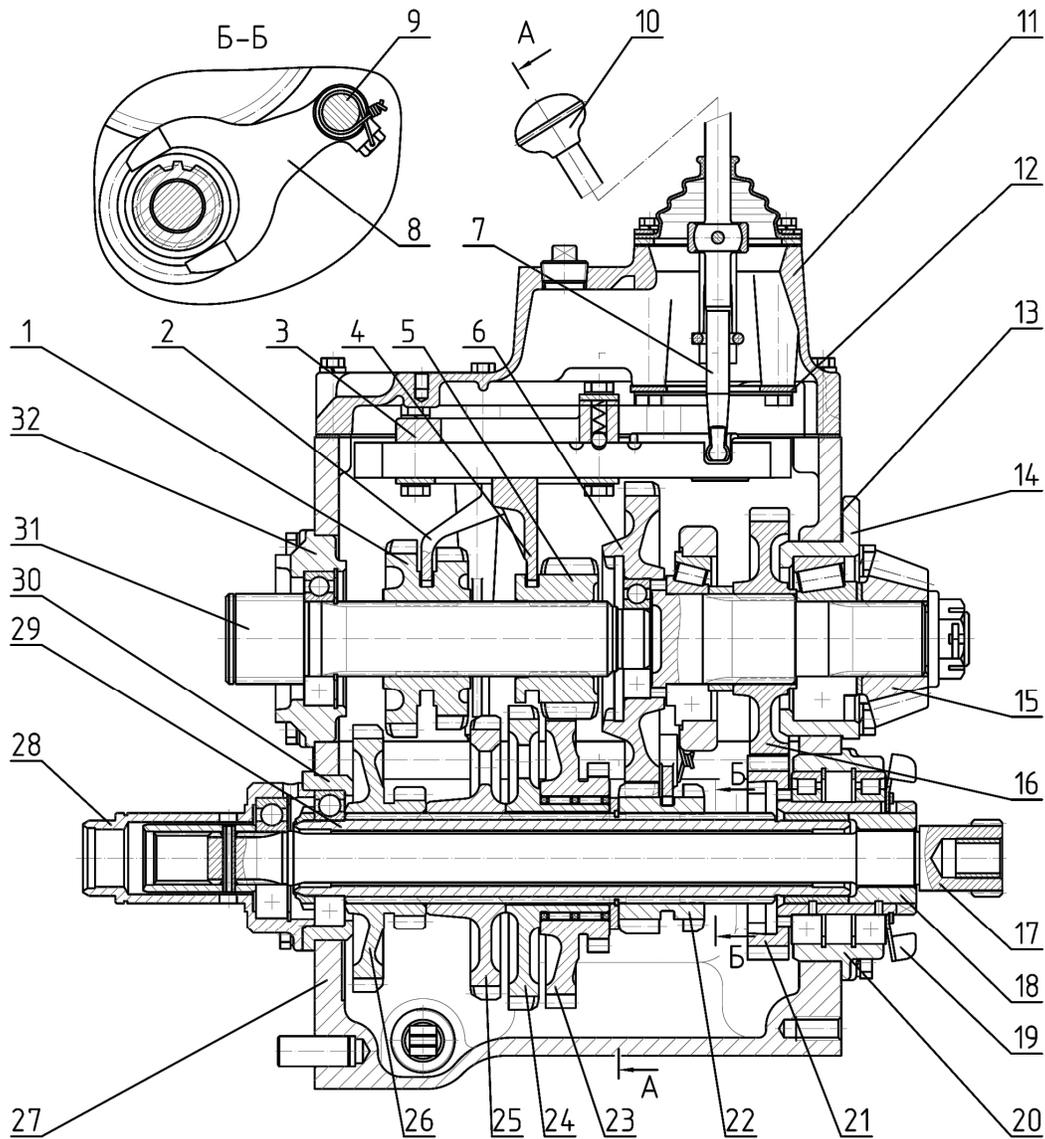
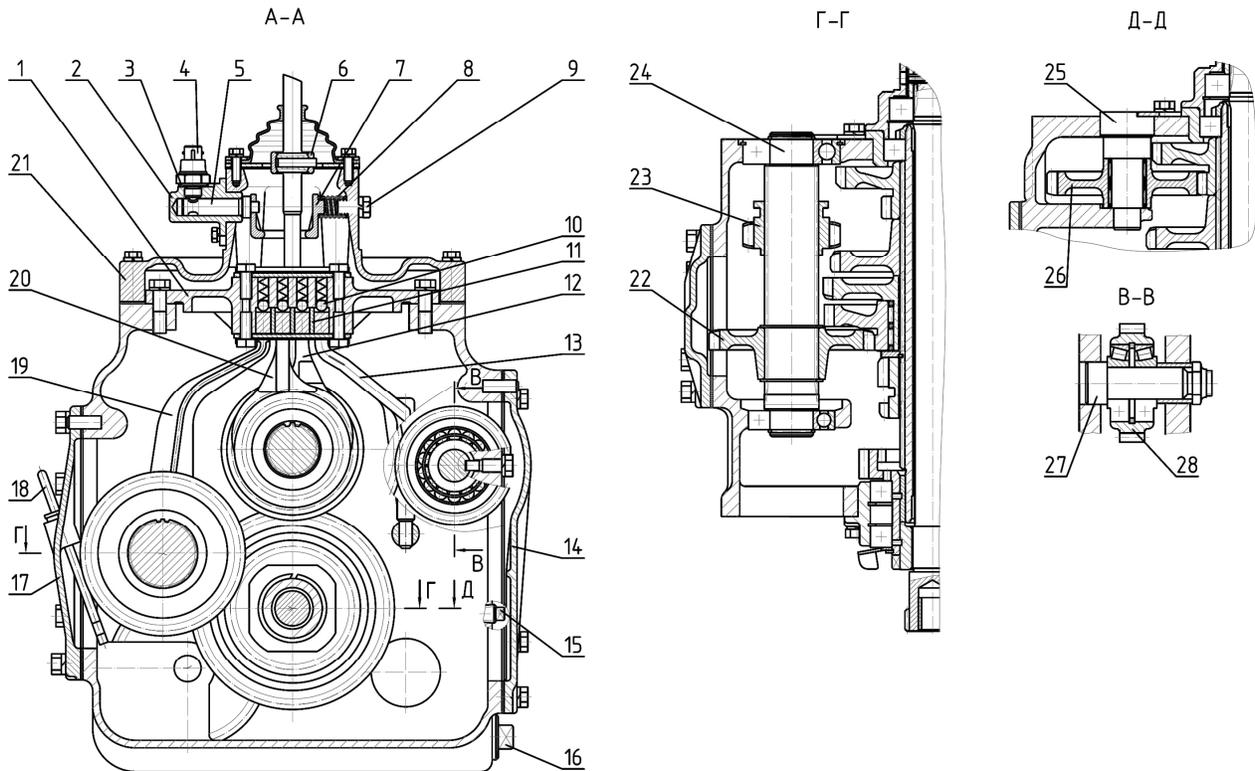

Fig. 1. Gearbox of BELARUS-510/512 tractor (9F/2R)
Fig. 2. Gearbox of BELARUS-510/512 tractor (9F/2R)
The GB (Fig. 1 and 2) consists of the mechanical gears unit and GB control.
The mechanical gears unit of the GB consists of the concentric input (31) and output (6) shafts located in the GB housing (27) (Fig. 1)*, as well as an intermediate shaft (29) parallel to them and the shaft of 1st gear and reverse (24) (Fig. 2).
The input shaft (31) (Fig. 1) is mounted on two ball bearings one of which is placed in the body (32) on the front wall of the GB housing (27). The second one is in the boring of the output shaft (6). On the input shaft, a double-wheel drive pinion of 4th and 5th gears (1) and a drive pinion of 3rd and 6th gears (5) with possibility of axial sliding movement along the shaft splines are installed.
The output shaft supports (6) (Fig. 1) are two tapered roller bearings, one located in the GB housing boring (27), and the second in the body (14) installed in the boring of the rear wall of the GB housing (27). Structurally, the output shaft is made as one piece with the driven pinion of 1st stage of the range reducer. The gear ring is located cantilevered in front of the output shaft (6). Between the supports of the output shaft, the driven pinion of 11nd stage of the range reducer (16) is installed fixed on the splines, which is also the drive pinion of the rear PTO synchronous drive. On the rear arm of the output shaft, the drive gear (15) of the rear axle final drive (small bevel pinion) is installed fixed on the splines.
On the intermediate shaft (29), fixed on the splines are installed the double-wheel driven pinion of 5th and 8th gears and reverse gears (26), driven pinion of 4th and 7th gears (25), and driven pinion of 3rd and 6th gear (24), on the hub of which the double-wheel intermediate pinion (23) is freely rotating on needle roller bearings, being in constant mesh with the pinion (22) (Fig. 2) installed on the shaft of 1st gear and reverse gears (24). On the intermediate shaft (29) (Fig. 1), with the possibility of axial movement the drive pinion (22) of 1st stage of the range-reducer is installed.
The 1st gear and reverse shaft (24) (Fig. 2) is installed on two ball bearings located in the GB housing borings. In the front of the shaft (24) on splines, the sliding pinion (23) of hill-climbing gears and reverse gears is installed. Backward movement of the sliding pinion (23) up to meshing with the pinion (25) (Fig. 1) provides forward hill-climbing gears, and forward movement up to meshing with the intermediate pinion of reverse motion (26) (Fig. 2) provides reverse gears. The intermediate reverse pinion (26) is installed on the axle (25) and is freely rotating on it on a needle roller bearing. The pinion (26) is in constant mesh with the smaller gear ring of the double-wheel gear (26) (Fig. 1).
At the rear part of the shaft (24) (Fig. 2), fixed on its splines, the driven pinion of hill-climbing gears and reverse gears (22) installed, which is constantly meshed with the smaller gear ring of the pinion (23) (Fig. 1) of the intermediate shaft (29).
On the right side of the GB of the tractors with FDA drive, the axle (27) is installed in the GB housing borings, on which on two tapered roller bearings the FDA drive pinion (28) is freely rotating. Power is taken off at the FDA from the driven pinion of 1st stage of the range reducer (6) (Fig. 1), with which the pinion (28) (Fig. 2) is constantly meshed.
On the front wall of the GB housing (27) (Fig. 1), concentrically to the intermediate shaft (29), the seat (28) is installed, inside of which the inner shaft front bearing (17) is located.
On the right and left sides of the GB housing, there are windows (Fig. 2). The left window is closed with the cover (17), in which there is a dipstick (18) to control the oil level. The tractors without an FDA drive have the right window closed with the cover (14), and the tractors with the FDA drive have the cover (14) removed and the window closed by the FDA drive transfer box housing (see section).
The GB control consists of the forks housing (3) (Fig. 1) and the GB control cover (11) that are installed on the upper plane of the GB housing (27) and bolted to it.
The forks housing (3) (Fig. 1) consists of the fork of 1st gear and reverse gears (19) (Fig. 2), the fork of 3rd and 6th gears (20), the fork of 4th and 5th gears (12) and the range reducer rod (13), the rails of which are installed in the groove of the housing (1) and can move along the groove. On the upper surfaces of the rails, there are transverse holes in which the spring-loaded balls of the latches (10) are inserted, which provide locking of the forks rails and reducer rail in the desired positions, as well as prevent spontaneous disengagement of the gears under load.
The rod (13) is connected with the shaft (9) (Fig. 1), on which the fork (8) is fixed that moves the drive pinion of 1st stage of the range reducer (22).
The forks and range reducer rails are separated by three lock strips (11) (Fig. 2). The strips (11) are installed in the housing (1) fixed and exclude simultaneous movement of several rails by the gear shifter lever (7) (Fig. 1). When a gear is engaged, the lock strips (11) lock the gear shifter lever (7) (Fig. 1) in the rail groove of the fork of the gear engaged.
The GB control cover (11) consists of the cover (21) (Fig. 2), on the upper surface of which the spherical bearing (6) of the gear shifter lever (7) (Fig. 1) is bolted. When swinging, the gear shifter lever (7) directly affects the rails in the forks housing (3), causing their displacement and, consequently, engagement or disengagement of the selected gear or range in the GB.
The GB design provides an engine start lock when a gear is engaged in the GB. On the right side of the cover (21) (Fig. 2), the housing is installed (2) bolted to it. In the housing (2), the axle (5) of the spring-loaded rocking frame (7) is located. The ring hole of the frame (7) envelops the gear shifter lever (7) (Fig. 1). At that, rocking of the lever (7) results in a corresponding movement of the frame (7) (Fig. 2), the axle flat (5) of which affects the diesel start lock sensor (4) mounted in the threaded hole of the housing (2).
The 9F/2R GB design provides 4 forward gears and one reverse gear, each of them can be engaged on the both range reducer stages, and one direct forward gear, at engagement of which the input (31) (Fig. 1) and output (6) shaft are rigidly linked by the drive pinion of 3rd and 6th gears (5) acting as a gear-type coupling at that.
To select and engage a reducer range, the operator shifts the gear shift lever (7) (Fig. 1) from the neutral position to the range-reducer position (Fig. 3). Further, to engage the 1st reducer stage, the operator shifts the GB control lever (7) (Fig. 1) backwards (Fig. 3). At that, the gear shifter lever (7) (Fig. 1), acting on the reducer rail (13) (Fig. 2), moves it and its associated roller (9) (Fig. 1) with the fork (8) forward. The drive pinion of 1st reducer stage (22) controlled by the fork (8) moves along the intermediate shaft splines (29) and engages with the driven pinion (6) of 1st range reducer stage.
To engage the 2nd reducer stage, the operator shifts the GB control lever (7) (Fig. 1) in the range reducer position forward (Fig. 3). At that, the gear shifter lever (7) (Fig. 1), acting on the reducer rail (13) (Fig. 2), moves it and its associated roller (9) (Fig. 1) with the fork (8) forward. The driven pinion of 1st reducer stage (22) controlled by the fork (8) moves along the intermediate shaft splines (29) and engages with the inner gear ring of the drive pinion (21) of 2nd range reducer stage, linking it to the intermediate shaft (29). The pinion (21) is in constant mesh with the driven pinion of the 2nd range reducer stage (16).
In the GB range reducer, there is no neutral position of the drive pinion of the 1st reducer stage (22) (Fig. 1), therefore either the 1st or the 2nd stage is always turned on in the range reducer.
To engage the 1st or 2nd forward or reverse gear, the operator shifts the GB control lever (7) (Fig. 1) to the extreme left position (Fig. 3) being the position of hill-climbing gears and reverse gears. Further, to engage the 1st or 2nd forward gear, the operator shifts the GB control lever (7) (Fig. 1) forward (Fig. 3). At that, the gear shifter lever (7) (Fig. 1), acting on the rail of the fork of the 1st gear and reverse gear, moves the fork (19) (Fig. 2) backward. The sliding pinion of 1st gear and reverse motion (23) controlled by the fork (19) engages with the driven pinion of 4th and 7th gears (25) (Fig. 1), and power in the GB is transmitted to the GB intermediate shaft (29) through the pinions (5), (23), (22) (Fig. 2), (23) and (25) (Fig. 1).
To engage the 1st or 2nd reverse gear, the operator shifts the GB control lever (7) (Fig. 1) to the position of hill-climbing gears and reverse gears backward (Fig. 3). At that, the gear shifter lever (7) (Fig. 1), acting on the rail of the fork of the 1st gear and reverse gear, moves the fork (19) (Fig. 2) forward. The sliding pinion of 1st gear and reverse motion (23) controlled by the fork (19) engages with the intermediate pinion of reverse gear (26) being in constant mesh with the lesser gear ring of the double-wheel pinion of 5th and 8th gears (26) (Fig. 1). At the reverse gear, power flow in the GB is transferred to the intermediate shaft (29) through the pinions (5), (23), (22) (Fig. 2), (23), (26) and (26) (Fig. 1).
lever (7) (Fig. 1) to the respective positions of those gears (Fig. 3). Further, to engage the 3rd (6th) gear, the operator shifts the GB control lever (7) (Fig. 1) to the position of the said gears backward (Fig. 3). At that, the gear shifter lever (7), acting on the rail of the fork of 4th and 5th gears, moves the fork (20) (Fig. 2) forward. The sliding pinion of 3rd and 6th gears (5) controlled by the fork (20) (Fig. 1) engages with the driven pinion of 3rd and 6th gears (24). By the emerged mesh, power is transferred to the GB intermediate shaft (29).
To engage the 9th (direct) gear, the operator moves the GB control lever (7) (Fig. 1) from the position of the 3rd (6th) and 9th (direct) forward gears (Fig. 3). At that, the gear shifter lever (7), acting on the rail of the fork of 3rd and 6th gears, moves the fork (20) (Fig. 2) forward. The sliding pinion of 3rd and 6th gears (5) controlled by the fork (20) (Fig. 1) engages with the inner gear ring of the output shaft (6), rigidly linking the input (31) and output (6) shafts.
The 9th (direct) gear must be engaged when the IInd range reducer stage is engaged (Fig. 3). This will avoid a loud noise in the GB, since the IInd reducer stage has an intermediate shaft speed (29) (Fig. 1) less than the Ist stage.
To engage the 4th (7th) or 5th (8th) gear, the operator shifts the GB control lever (7) (Fig. 1) to the respective positions of those gears (Fig. 3). Further, to engage the 4th or 7th gear, the operator shifts the GB control lever (7) (Fig. 1) to the position of the said gears forward. At that, the gear shifter lever (7), acting on the rail of the fork of 4th and 5th gears, moves the fork (12) (Fig. 2) and the drive pinion unit of 4th and 5th gears (1) controlled by it (Fig. 1) backward. The smaller gear ring of the unit (1) engages with the driven pinion of 4th and 7th gears (25). By the created mesh, power from the input shaft (31) is transferred to the GB intermediate shaft (29).
To engage the 5th or 8th gear, the operator shifts the GB control lever (7) (Fig. 1) to the position of the said gears backward (Fig. 3). At that, the gear shifter lever (7), acting on the rail of the fork of 4th and 5th gears, moves the fork (12) (Fig. 2) and the drive pinion unit of 4th and 5th gears (1) controlled by it (Fig. 1) forward. The larger gear ring of the unit (1) engages with the driven pinion of 5th and 8th gear (26). By the created mesh, power from the input shaft (31) is transferred to the GB intermediate shaft (29).